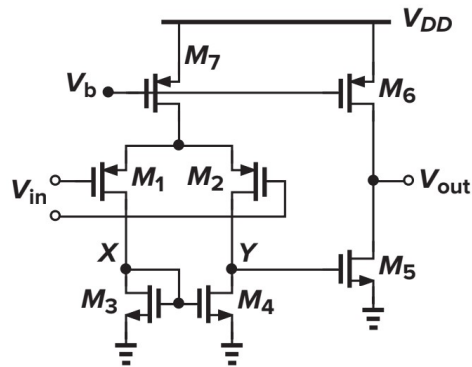

Figure 9.90
**9.18.** In this problem, we design a two-stage op amp based on the topology shown in Fig. 9.90. Assume a power budget of 6 mW, a required output swing of 2.5 V, and  $L_{eff} = 0.5 \mu\text{m}$  for all devices.